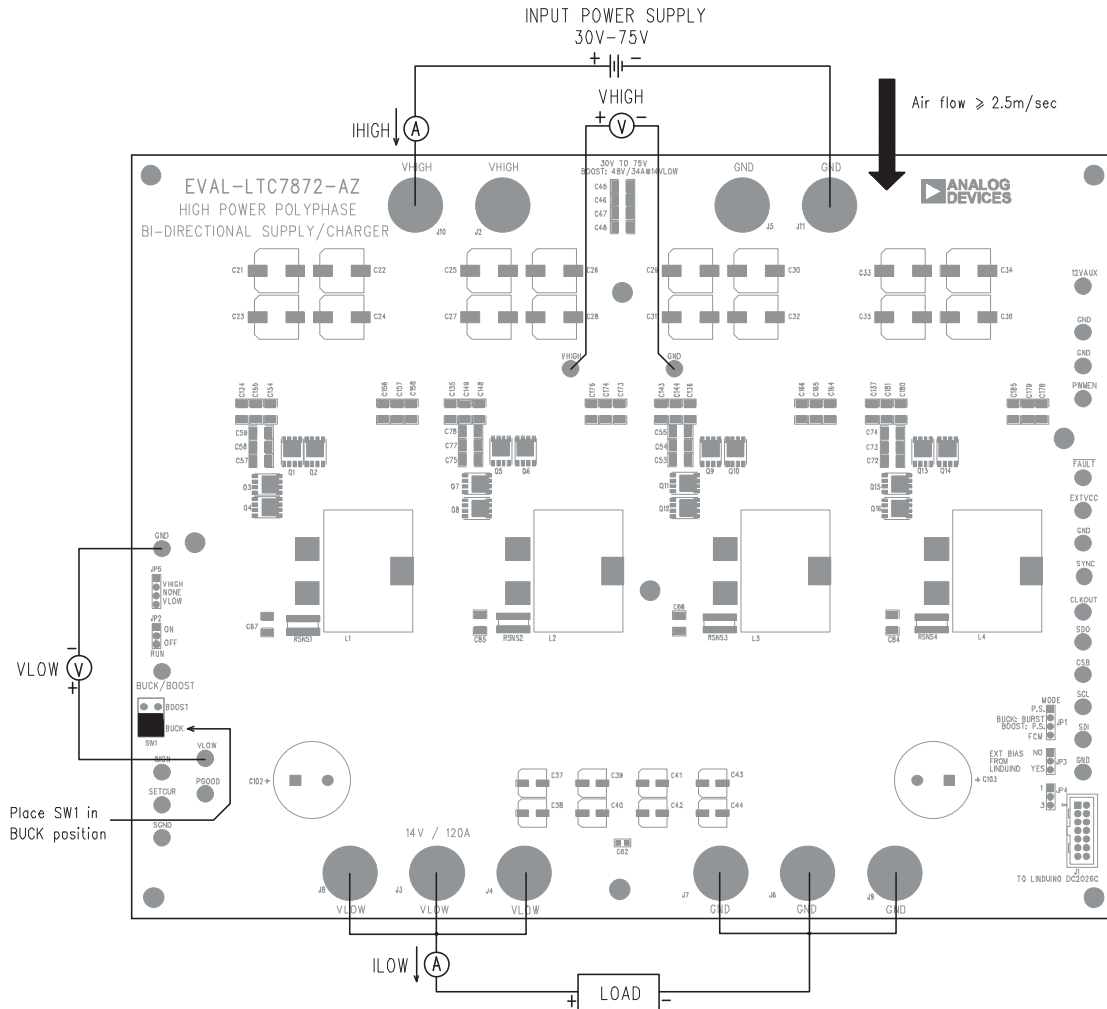

Figure 1. Measurement Setup for Buck Mode
- See the measurement setup in Figure 1 for Buck mode.